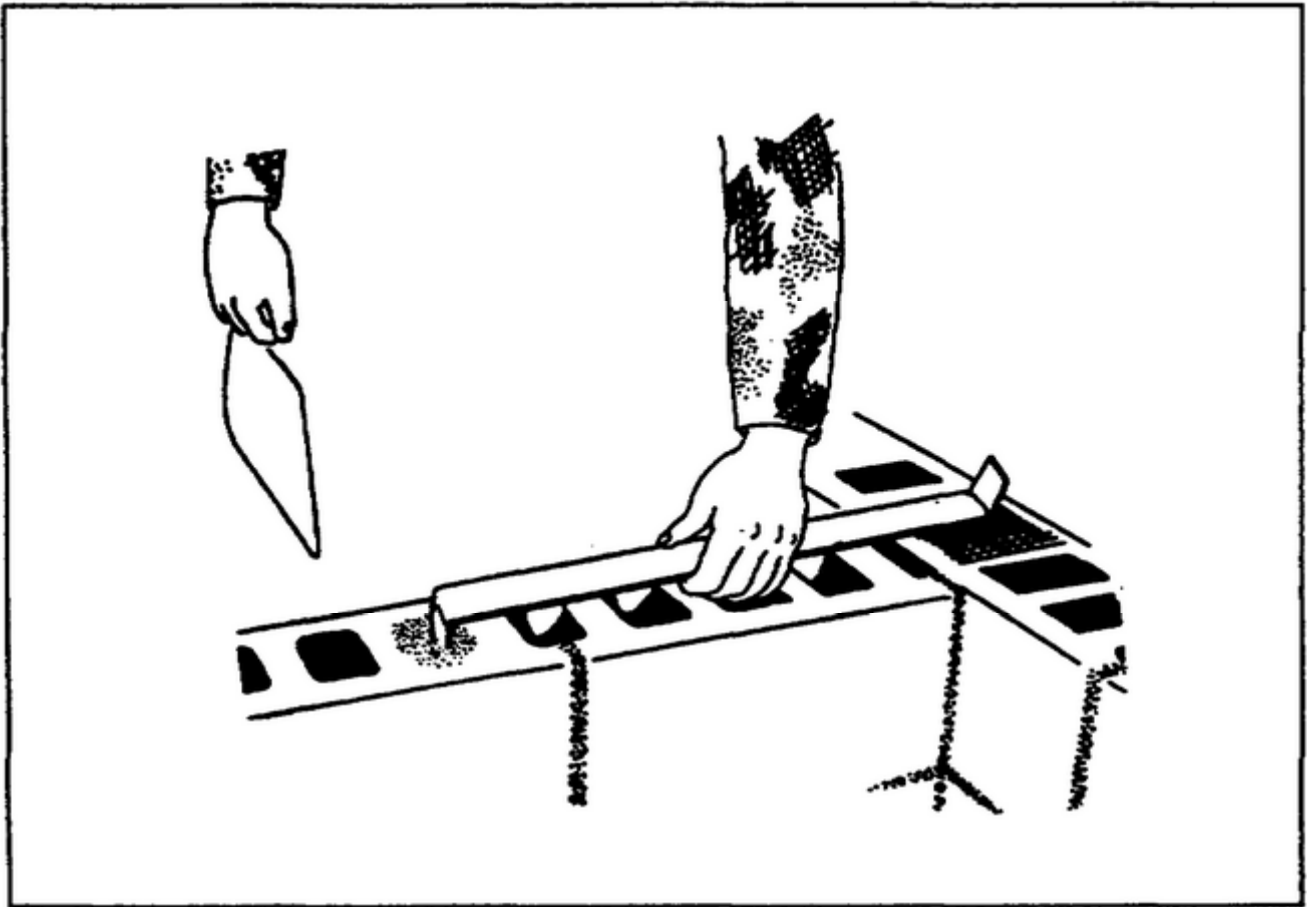

Figure 2-23. A tie bar and metal lath
- a. Placing Tie Bars. Tie bearing walls together with a tie bar that has a right angle bend on each end. Place a metal lath over the core in the outside wall to support the concrete or mortar for the next course (Figure 2-23).